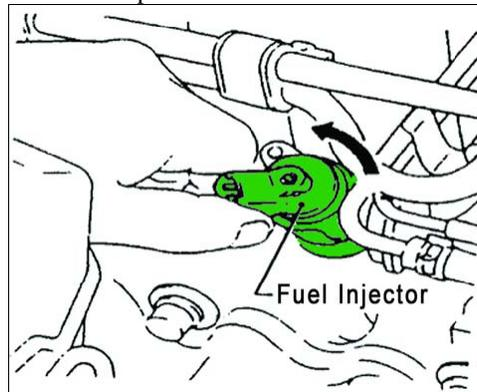

Fig. 2: Subaru
4. Using only your fingers, turn the fuel injector(s) 90 degrees. The fuel injector(s) connectors on both sides of the engine should be pointed toward the front of the vehicle. See Fig. 2.